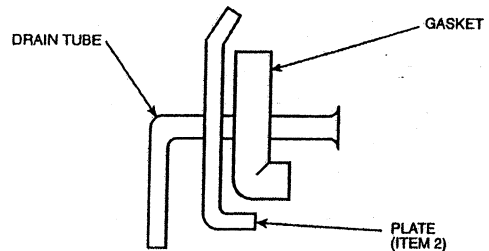

Fig. 2 — External Drain Assembly
1. Remove backing from gasket (item 3) and affix adhesive side of gasket to inside of plate (item 2) that has large opening in center. Line up holes with plate and gasket. Gasket will wrap around the inside flange of plate. See Fig. 2.
2. Push the straight or 90-degree elbow copper drain tube through gasket and plate as shown. See Fig. 2.